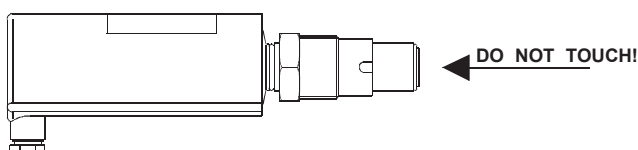

Figure 1-6
**DO NOT TOUCH THE DIAPHRAGM! FIGURE 1-6.**